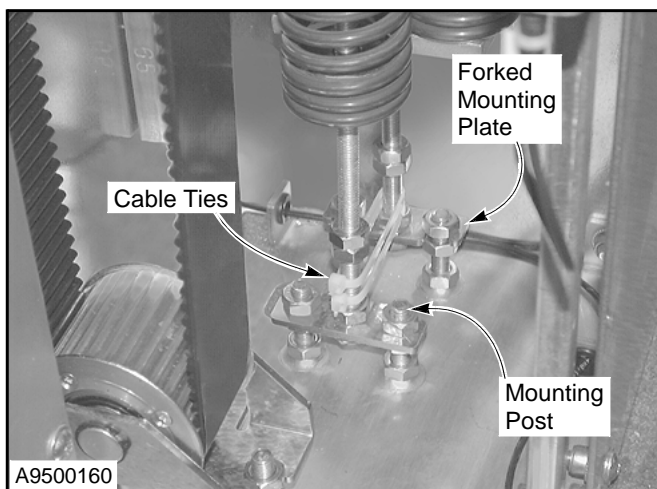

Figure 29
5. On the end of the adjustment rod is a forked mounting plate. It is used to attach the spring pack to a pair of mounting posts on the base plate. A pair of nuts on each post lock the spring pack to the plate. (See Figure 29.)